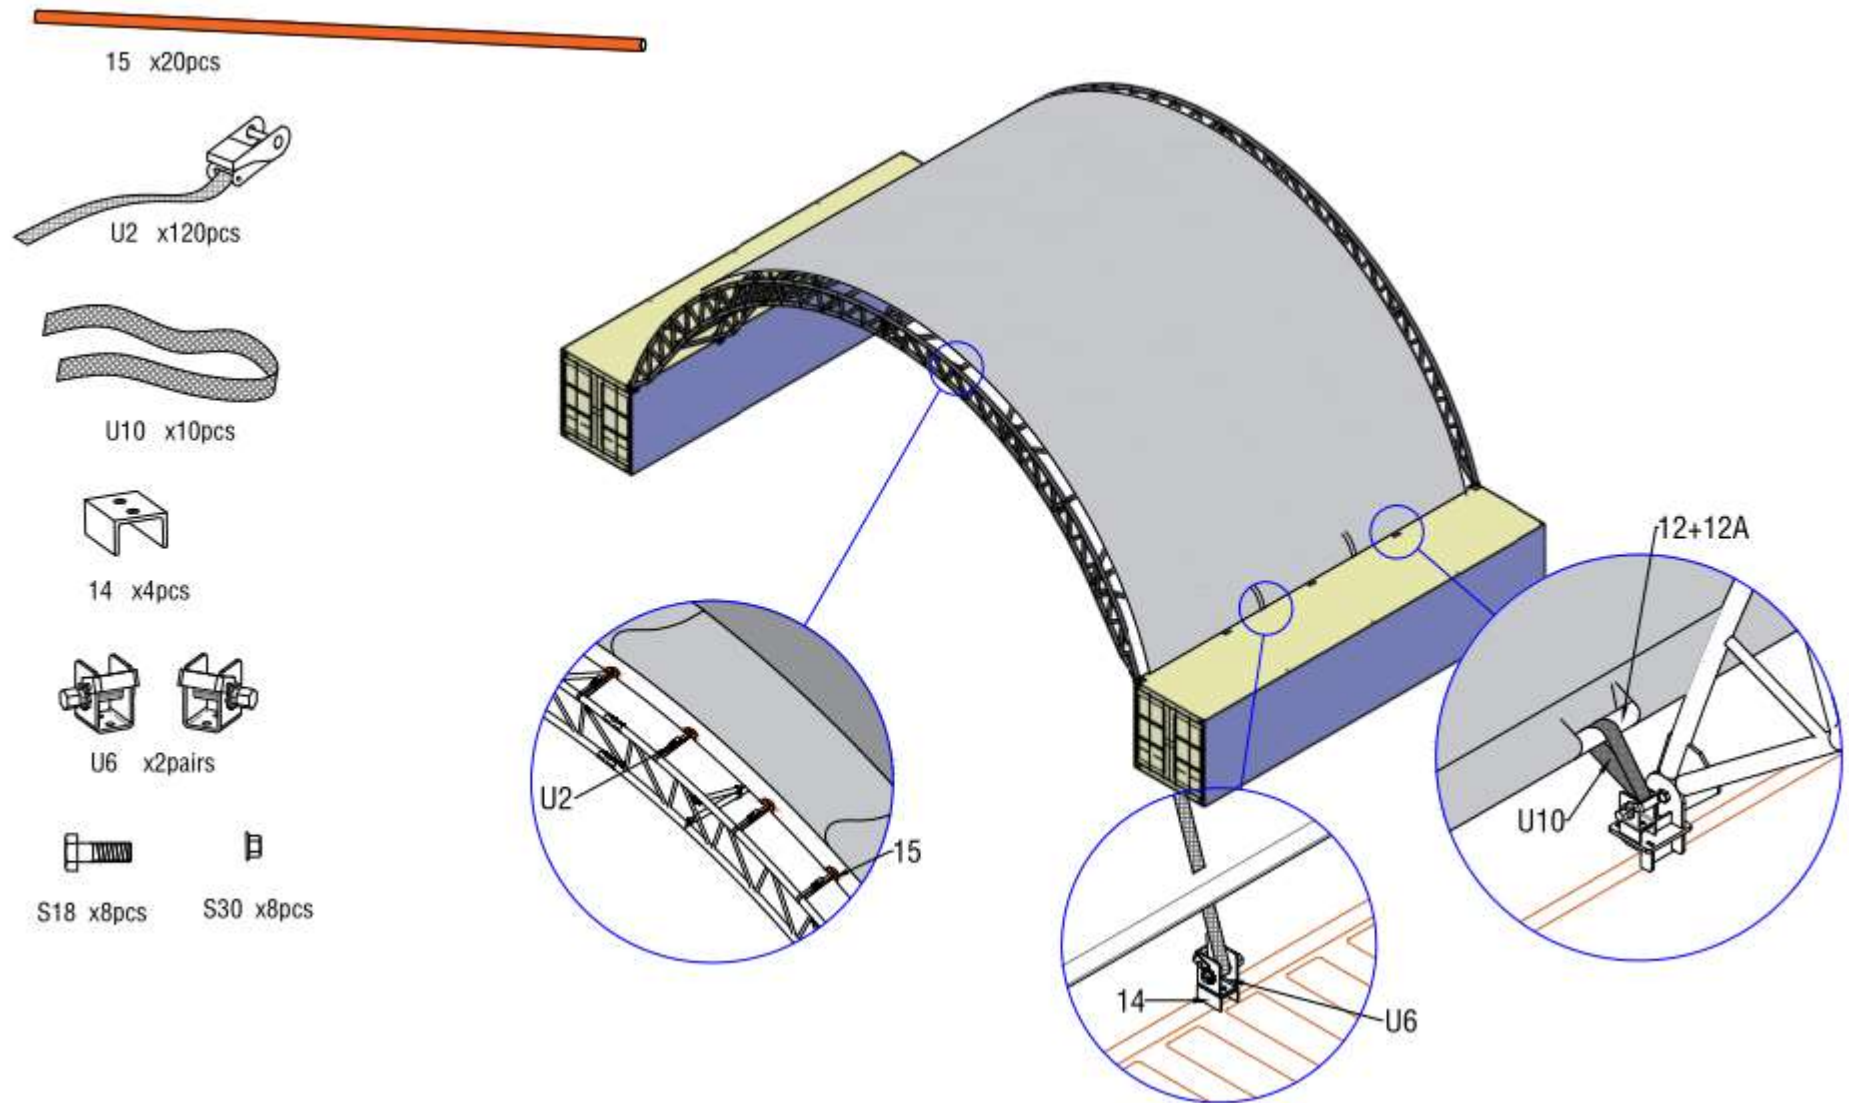

Figure 11
4. Insert the PPR Tube (Part no.15)into the end of roof cover by using small ratchet with straps(Part no.U2)to the arch as Figure 11 shows. Then cut the lower tension cover pocket according to the base plate location(**Please note the Cutting direction, the cutting should be Perpendicular to the cover pocket**). Insert the nylon straps (Part no.U10)into the winch ,drive the ratchet straps lashing winch forth and back and then roof cover is tightened. The roof cover tightening should be properly tightened and not too tight.